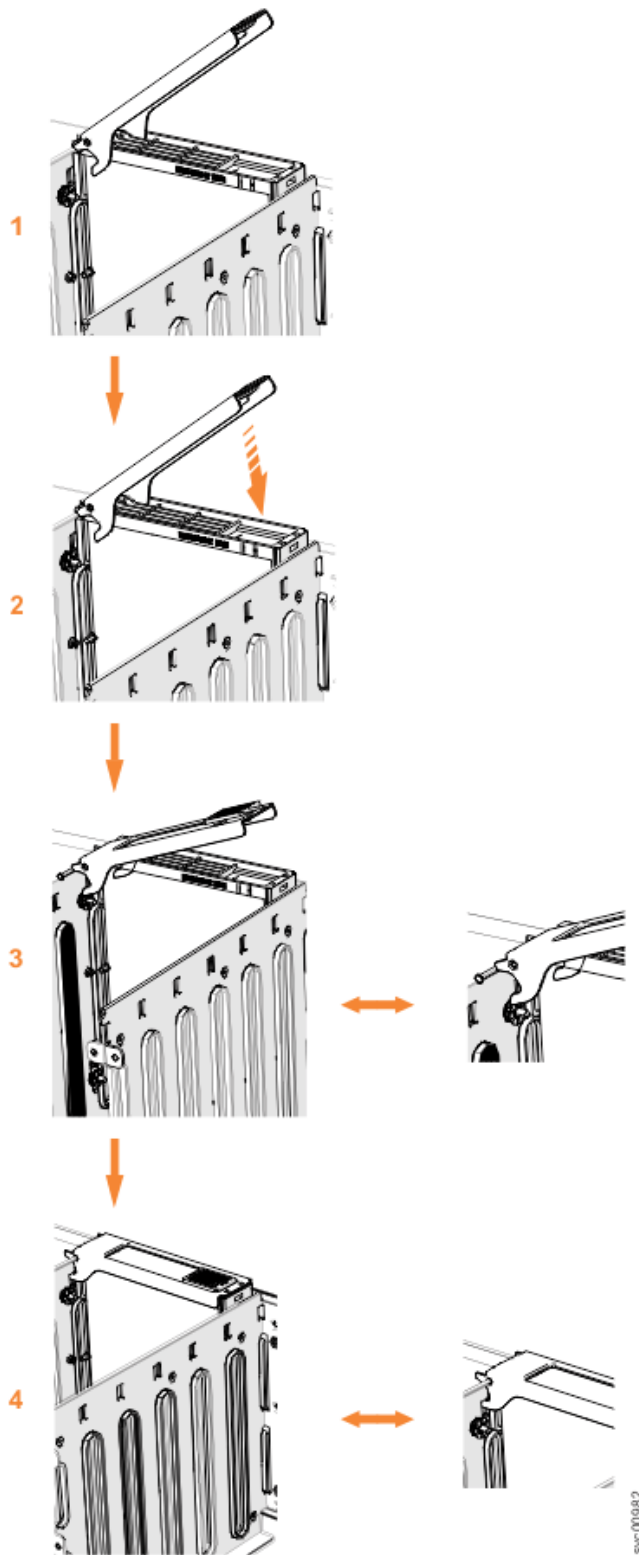

Figure 45. Replace the drive
5. Ensure that the drive handle (❶ in Figure 45 on page 61) of the drive assembly is in the open (unlocked) position.
7. Gently push the drive down until it stops and the bottom of the latch is aligned with the top of the partition. Ensure that the handle is not open more than 45 degrees from the drive carrier. (❷ in Figure 45 on page 61).
8. Rotate the handle down to lock the drive assembly into the chassis (**3** in Figure 45 on page 61).
10. Ensure that the top toe of the latch is also fully engaged (**4** in Figure 45 on page 61).